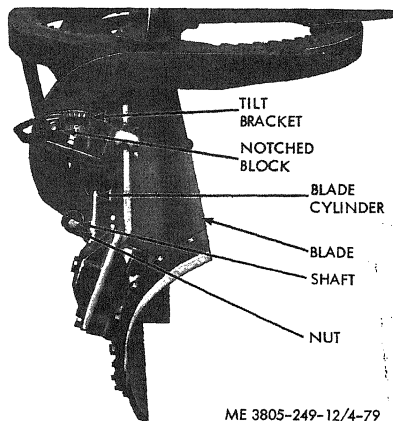

Figure 4-79. Blade assembly.
a. Removal. Refer to figure 4-79.
(1) Lower the blade to the ground and block in position.
(2) At the right side of the blade, remove notched block and nut which secure the blade to the circle assembly.